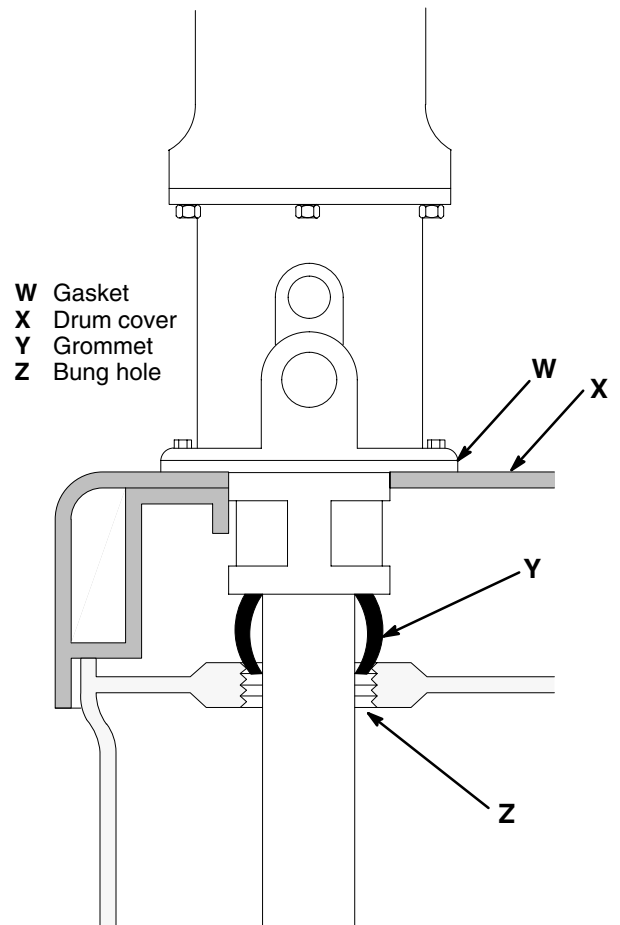

Fig. 6
1. Insert the pump riser tube through the gasket (W) and drum cover (X). Fasten the Fire-Ball pump from the top side and the President pump from the bottom side. See Fig. 6.
2. Slide the rubber grommet (Y), tapered end down, onto the riser tube and push it up against the pump base. See Fig. 6.
3. Guide the pump riser tube through the drum bung hole (Z) and place the cover on the drum. See Fig. 6.